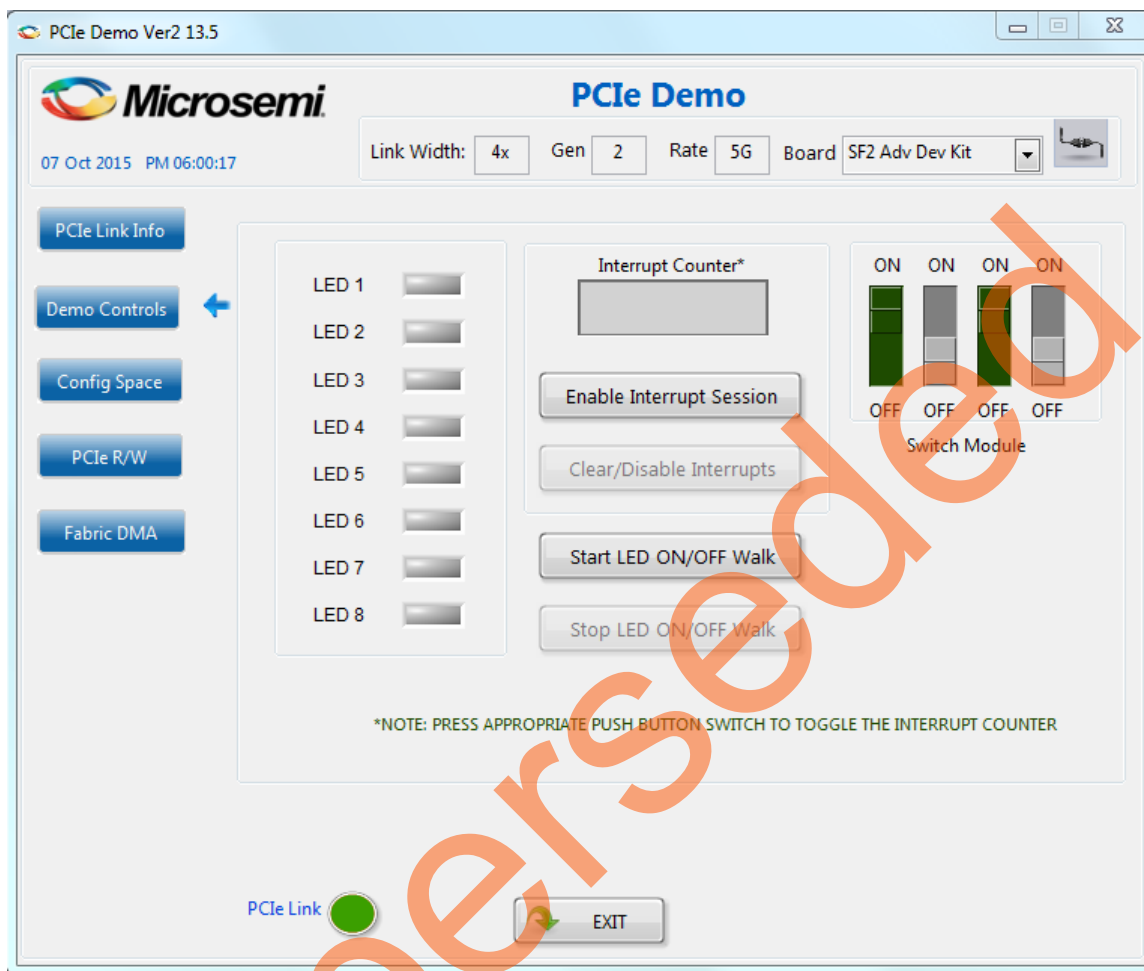

Figure 20 • Demo Controls
4. Click **Demo Controls** to display the LEDs options and DIP switch positions as shown in Figure 20.